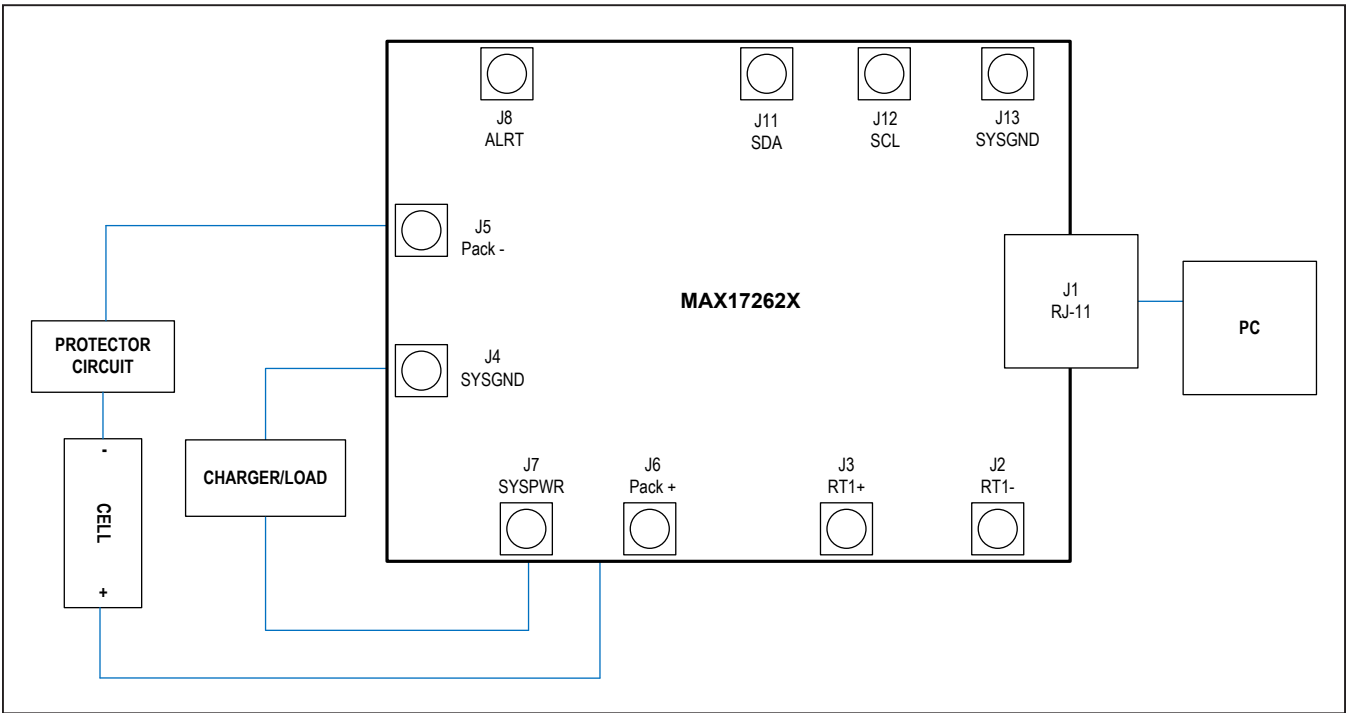

Figure 1. MAX17262 Board Connections
- 5) Make connections to the EV kit board based on cell pack configuration as shown in Figure 1. The load or charger circuit can be connected at this time as well. The cell connects between the PACK- and PACK+ pads and the charger/load connects between the SYSGND and SYSPWR pads.